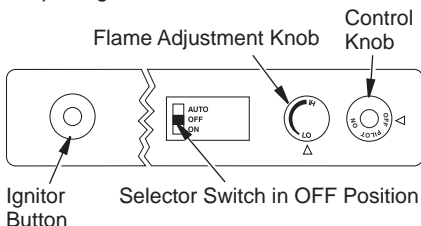

Figure 25 - Control Knob and Ignitor Button Location (Shown as Supplied, No Control Options)
4. Press in and turn control knob clockwise ↻ to the OFF position (see Figure 25).
5. Wait five (5) minutes to clear out any gas. Then smell for gas, including near the floor. If you smell gas, STOP! Follow "B" in the safety information, page 20. If you don't smell gas, go to the next step.
6. Press in and turn control knob counterclockwise ↻ to the PILOT position. Press in control knob for five (5) seconds (see Figure 25).